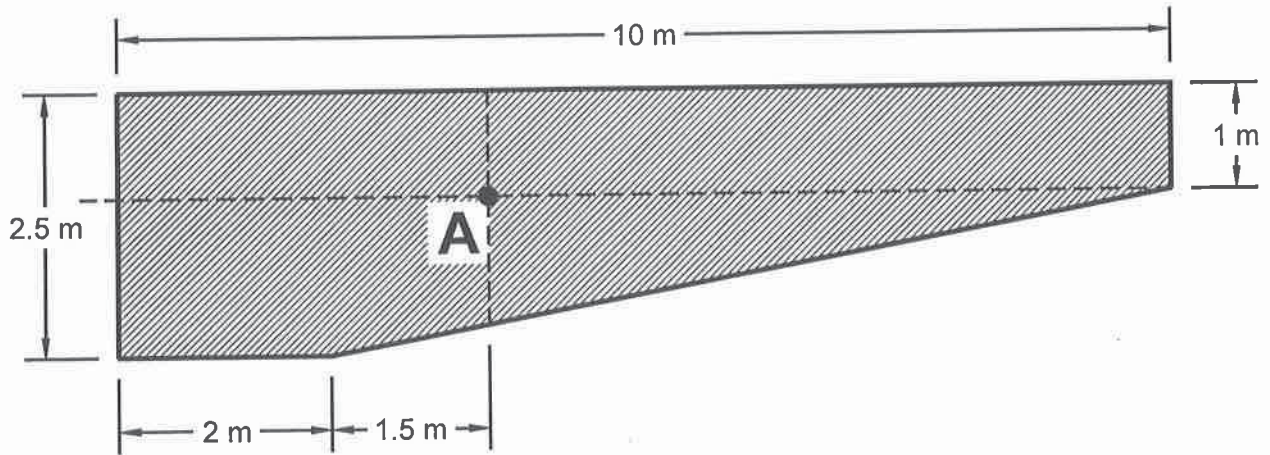

Figure 4
- (ii) A vertical stress of 100 kPa intensity is applied on the foundation of a structure. The foundation plan of the structure is shown in **Figure 4**. Determine the vertical stress increase at a depth of 4 m below the point 'A' using the Newmark's Chart.